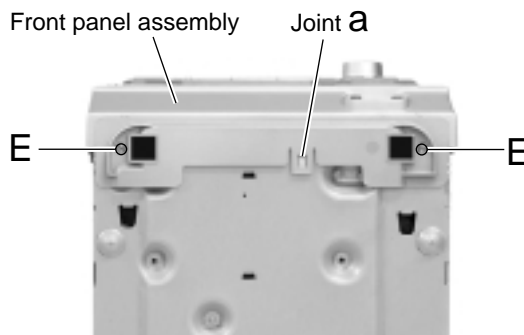

Fig.6
■ Removing the front panel assembly (See Fig.6 to 8)